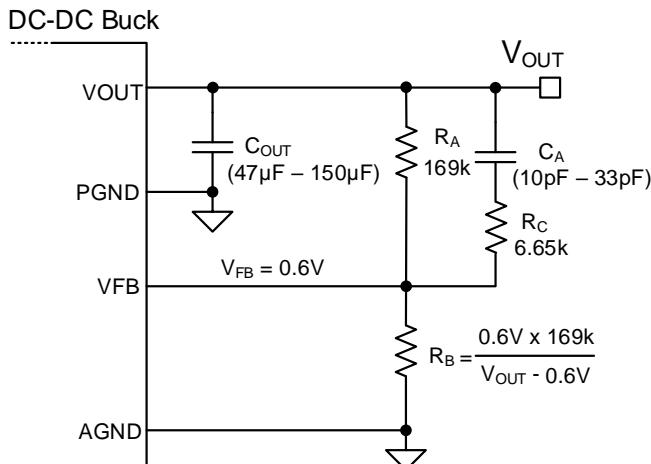
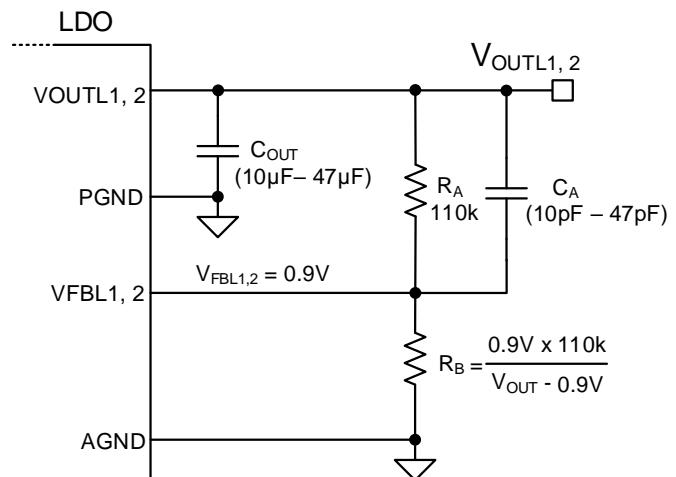

Figure 2: DC-DC VOUT Resistor Divider & Compensation Capacitor
Figure 3: LDO VOUT Resistor Divider & Compensation Capacitor
**5) Output Voltage Settings** - The output voltage of each rail may be adjusted quickly by placing a jumper on the jumper sets J6, J7 and J9. The voltages available for the buck regulator are 0.6V, 1V, 1.8V, 2.5 and 3.3V. The voltages available for the LDOs are 0.9V, 1V, 1.8V, 2.5V and 3.3V. The compensation CA may be adjusted according to Table 1 for best results. The output voltage may also be adjusted to any voltage as indicated by the equation for RB shown in Figure 2 and Figure 3.